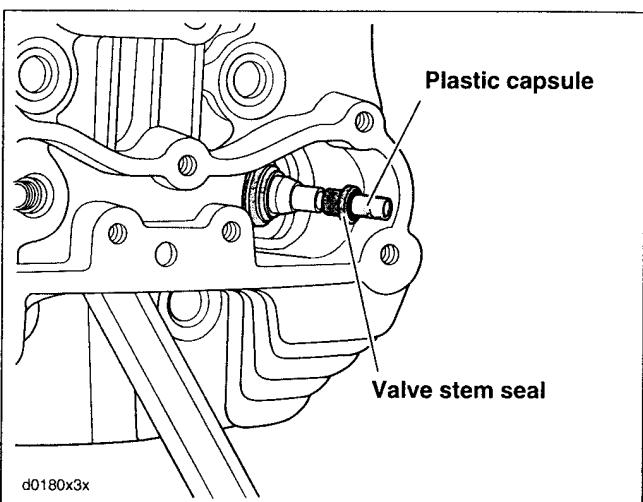

Figure 3-104. Install Valve Stem Seal
12. See Figure 3-104. Apply a very thin film of clean H-D 20W50 engine oil to capsule. Slide new valve stem seal over capsule and down valve stem until contact is made with top of valve guide. Remove capsule from valve stem tip.